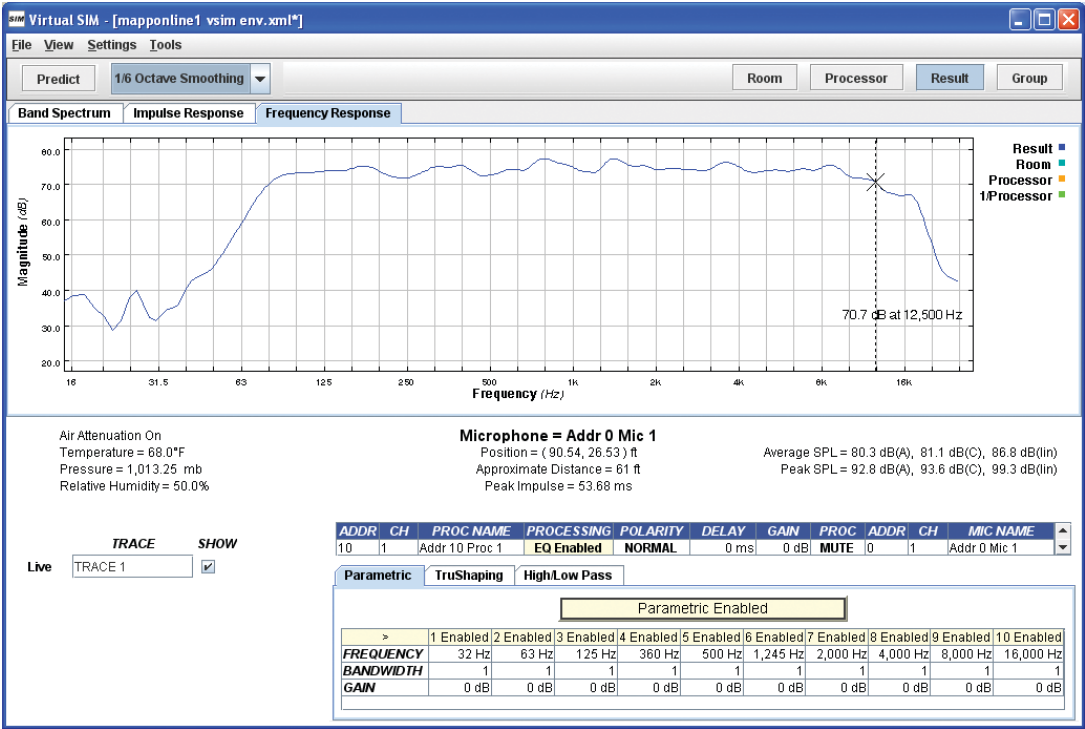

Figure 53. Virtual SIM trace with default environmental settings
- 5. Adjust the Temperature, Pressure and Relative Humidity sliders to taste. Using Virtual SIM, compare two predictions using different settings, as shown in Figures 53 and 54. You will see some differences in the higher frequency response. The Natural Environment can stay open during this procedure.